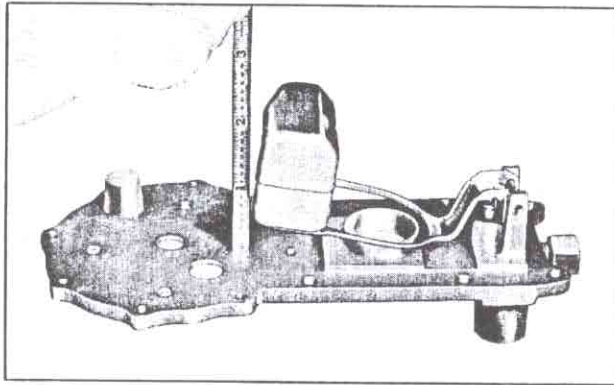

Fig. 144—Measuring Float Level
a. **Float level.** With the fuel meter cover inverted measure the distance between the cover and the bottom of the float (fig. 144). If float level is correct this dimension will be $2 \frac{9}{32}$ ". Bend float arm as required to adjust.